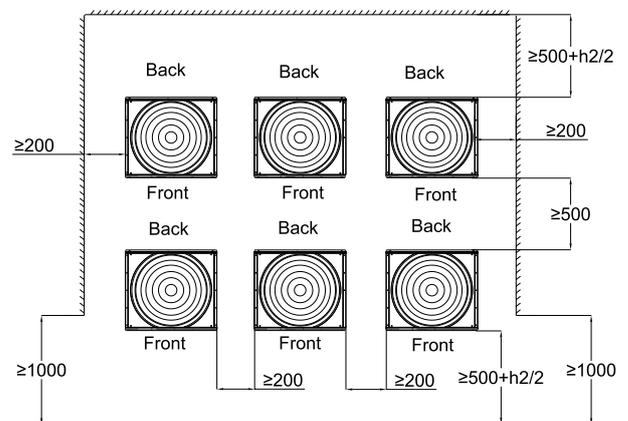

Figure 10
- Obstacles in the front, back and sides, mounting in the same direction (see Figure 10)